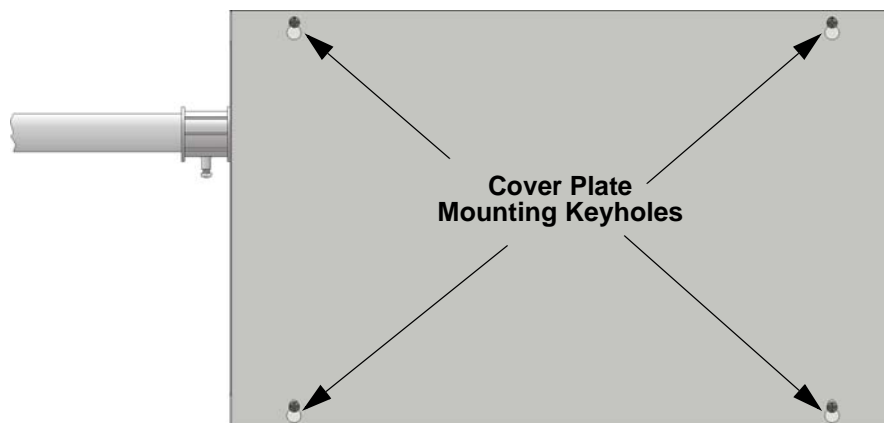

Figure 4-7 Cover Plate Mounting Keyholes and Cover Mounting Screws Alignment
- Align the cover plate mounting keyhole over the cover mounting screws. See Figure 4-7.